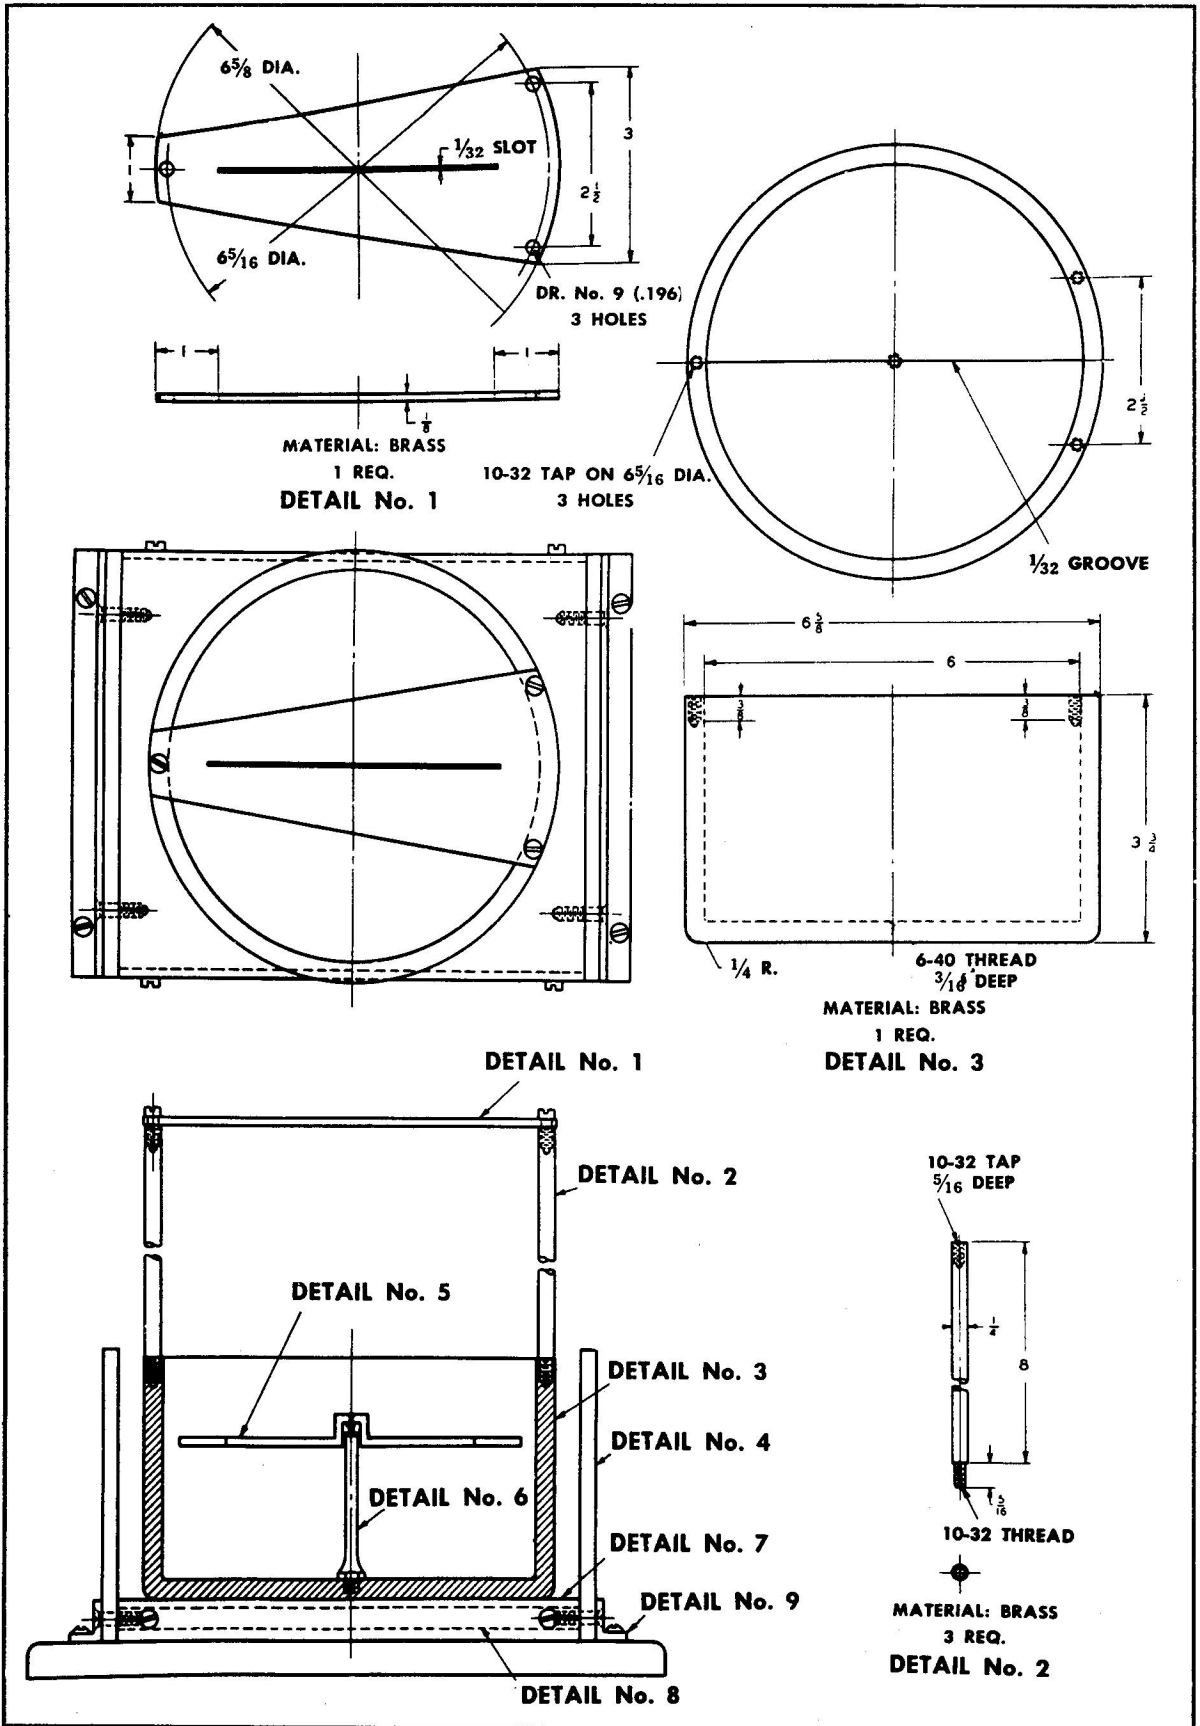

Figure 40 — Artificial Field Stand
g. ARTIFICIAL FIELD STAND.—(See figures 40 and 41.) The artificial field illustrated is for the pur-